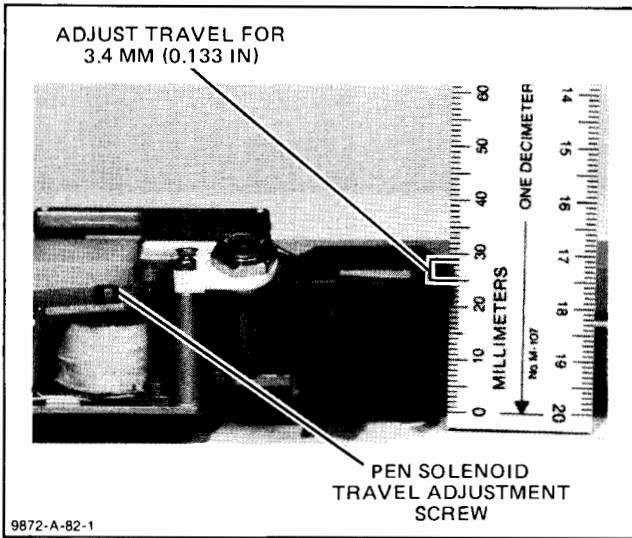

Figure 3-4. Pen Solenoid Travel Adjustment
- b. Using a common screwdriver, set the pen solenoid travel adjustment screw to obtain a travel of 3.4 mm (0.133 in.). Refer to Figure 3-4.